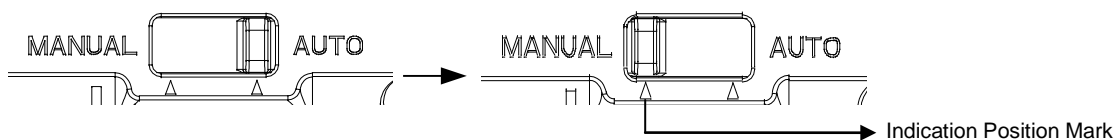

Figure 2-11 Switching the toggle Switch from AUTO to MANUAL
1. Move the auto/manual toggle switch from 'AUTO' (automatic) to 'MANUAL' position, as shown in Figure 2-11.